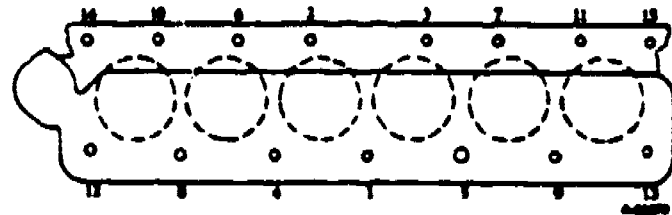

Fig. 112 - Cylinder Head Bolt Tightening Sequence
32. Install long cylinder head bolts through rocker shaft brackets. Tighten cylinder head bolts evenly following sequence shown in Fig. 112. Do not tighten bolts fully the first time, but go over them several times. Tighten bolts evenly in correct order, working in approximately 20 foot-pound steps until all bolts have been tightened to specified torque.